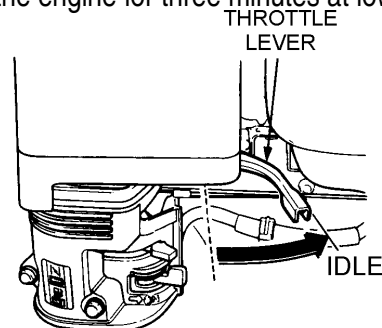

Figure 20. Throttle Lever (Idle)
- Move the throttle lever to the **IDLE** position (Figure 20) and run the engine for three minutes at low speed.